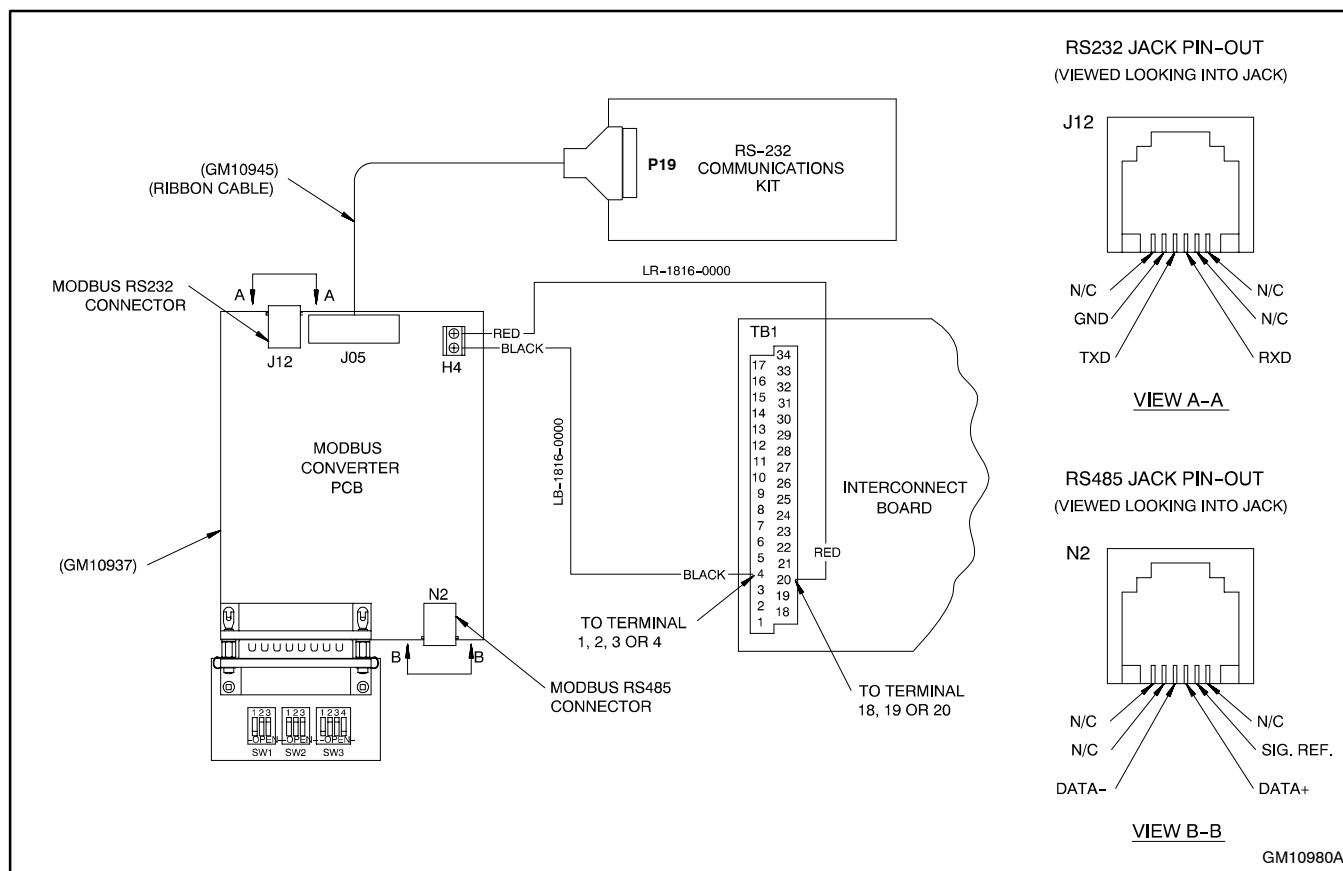

Figure 2-9 Wiring Diagram
13. Connect the red, positive (+) and black, negative (-) DC power supply leads from the Modbus module to the generator set controller terminal strip TB1. See Figure 2-9.
14. Connect the serial cables from the Modbus master to either the RS-232 serial port J12 or the RS-485 serial port N2 consistent with the serial communications mode. See Figure 2-9 for port pinouts. Maximum cable length for RS-232 connections is 15.2 m (50 ft.). Maximum cable length for RS-485 connections is 1220 m (4000 ft.). Use Belden 9842 2-pair, 4-conductor, full-shielded